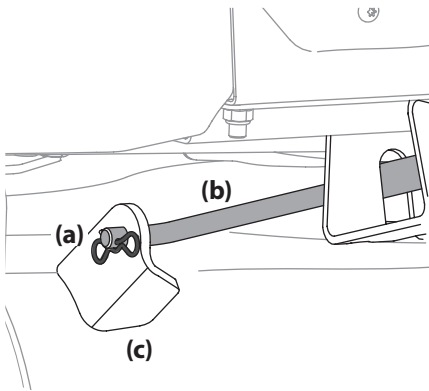

Figure 4-15
6. Pull the cotter pin (a) out of the front deck lift rod (b) securing it to the deck. See Figure 4-15. Slide the deck lift rod out of the front hanger bracket (c).
6. Reinstall the front deck lift rod and secure in place with the cotter pin. Refer to Figure 4-15.